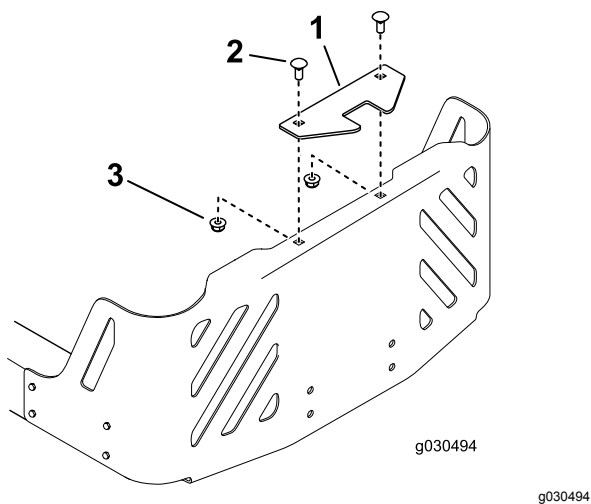

Figure 10
Note: The stabilizer bracket is used only on 2015 and newer models (Figure 10).
1. Install the stabilizer bracket to the engine guard using 2 carriage bolts (5/16 x 3/4 inch) and 2 locknuts (5/16 inch) (Figure 10).